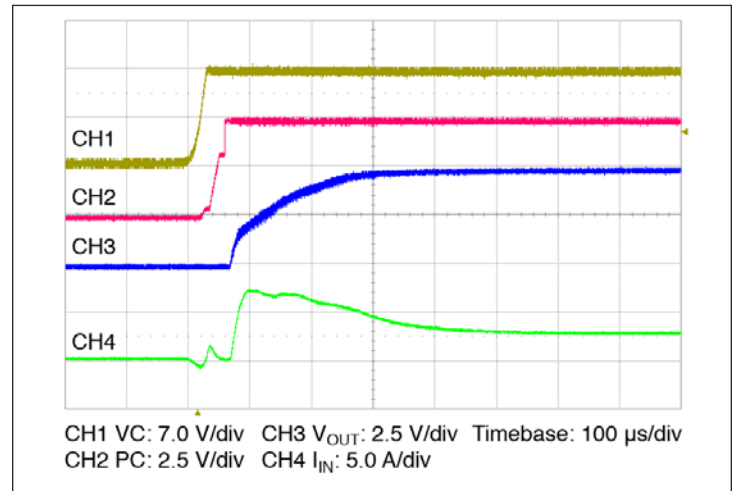

Figure 14 – Start up from application of VC;  $V_{IN}$  pre-applied
- Stand Alone Operation (VC applied after VIN): In this case the VTM output will begin to rise upon the application of the VC voltage (See Figure 14). The Adaptive Soft Start circuit (See Section 10) may vary the output rate of rise in order to limit the inrush current to its maximum level. When starting into high capacitance, or a short, the output current will be limited for a maximum of 900  $\mu$ sec. After this period, the adaptive soft start circuit will time out and the VTM may shut down. No restart will be attempted until VC is re-applied, or PC is toggled. The maximum output capacitance is limited to 2000  $\mu$ F in this mode of operation to ensure a successful start.